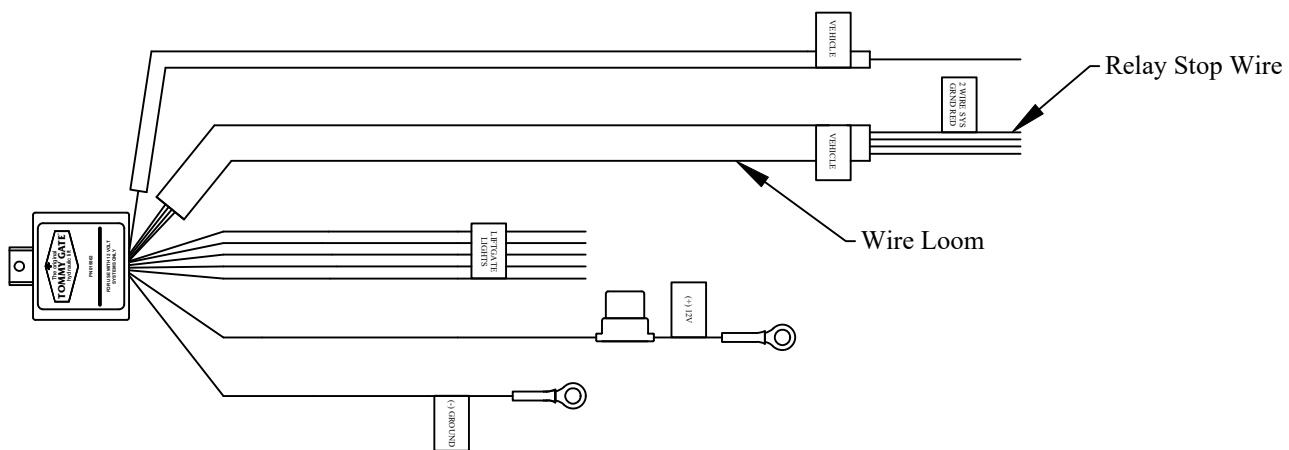

Figure 5: Locating relay stop wire.
11. Separate the relay's red stop wire from the wire loom labeled "VEHICLE" (Figure 5).